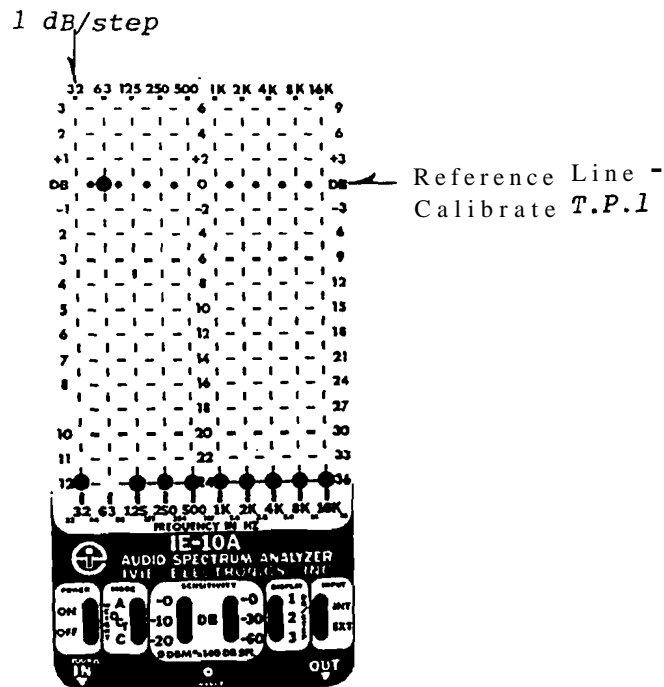

Figure 36
- Set the IE-10A DISPLAY switch to 1 dB per step for best resolution and accuracy. Connect the IE-10A to T.P. 1 and adjust signal generator output to be within the manufacturer's device specifications for input level. Also, if possible, adjust the generator level to be at the 0 dB line on the IE-10A display graticule as shown in Fig. 36 below. It isn't necessary for the signal level to be at 0 dB on the analyzer display, but it does serve as a convenient calibration line for most insertion loss measurements.